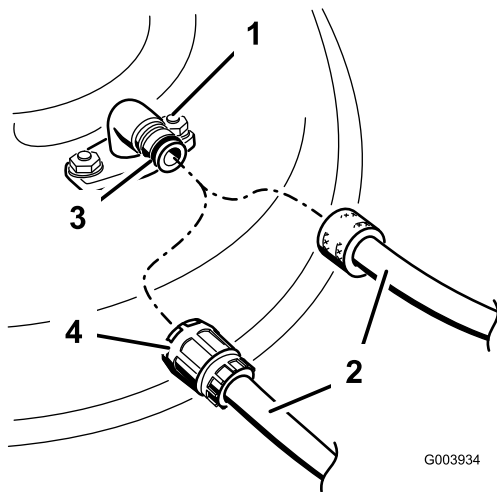

Figure 62
3. Attach the hose coupling to the end of the mower washout fitting, and turn the water on high (Figure 62).